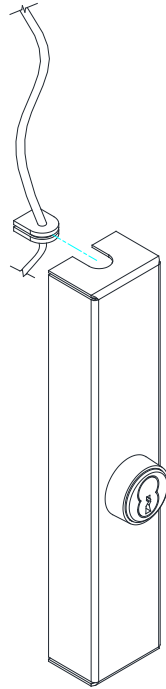

Figure 5
5. Insert the D-shaped rubber grommet into the cover per **Figure 5**. The rubber grommet can be slid up or down to give more slack in this step.